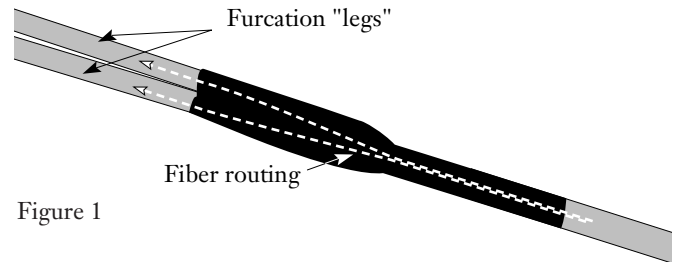

Figure 1
**1.2** Furcation is the branching of fibers contained in a fiber optic cable into individual cables (pigtailed), which can then be connectorized and terminated per system requirements (Figure 1). Furcations safely distribute individual fibers to the appropriate equipment port.